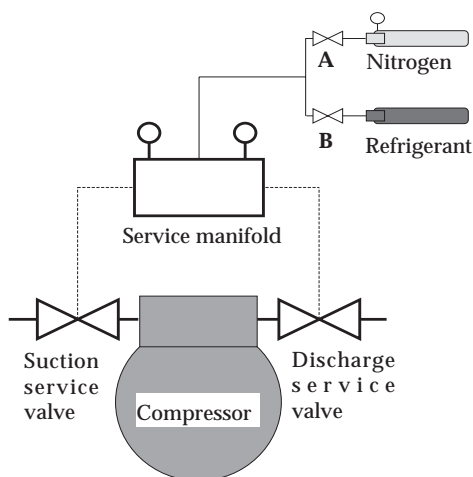

Figure 1 - Pressure testing schematic
6. Connect a nitrogen bottle to the service manifold of circuit no. 1 as shown in Figure 1. Pressurise the system to at least 10 bar (1000 kPa), by opening valve A.